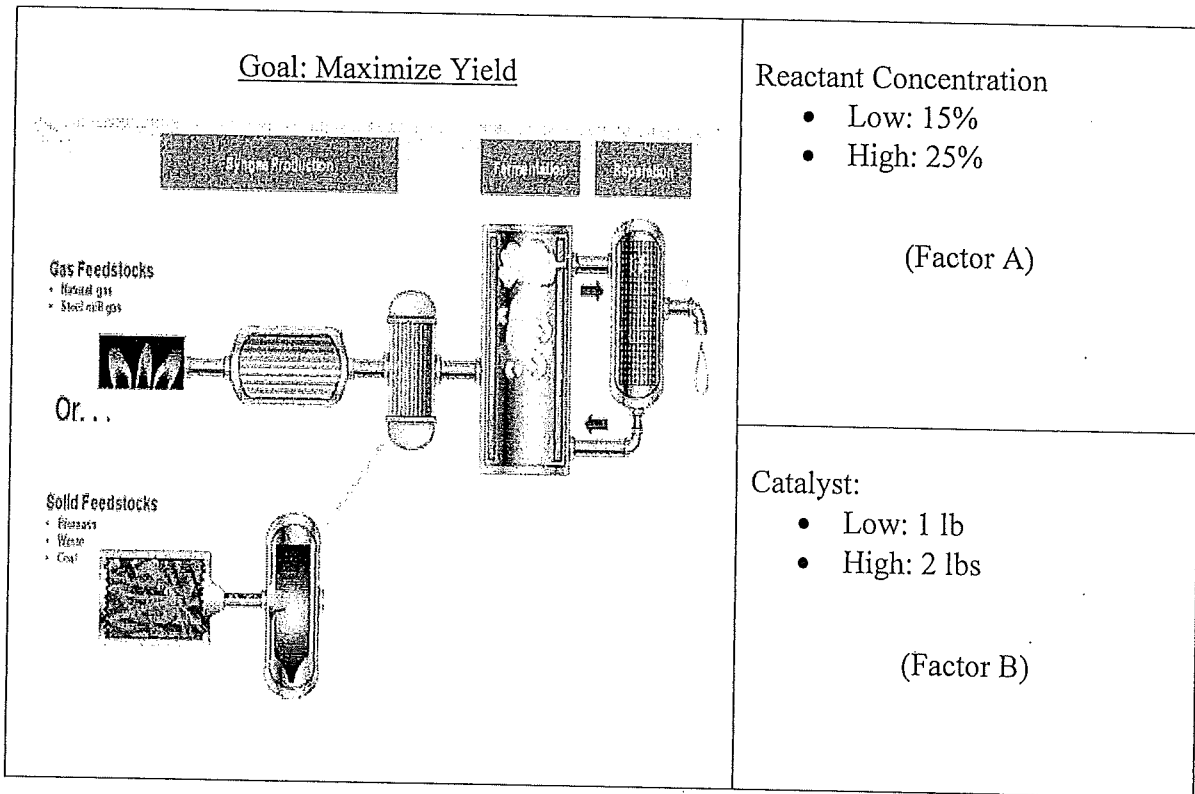

Figure 7 : Reactant Concentration(A) vs Catalyst (B)
5. [a] Refer to Figure 7 and Table 5, consider an investigation on the effect of the concentration of the reactant and the amount of the catalyst on the conversion (yield) in a catalytic chemical process which was produced by Mr. Hakimi a final year students in PPKBSM. The objective was to determine if adjustments to either of these two factors would increase the yield.
[b] Use Figure 7 on chemical process for further regression analysis.